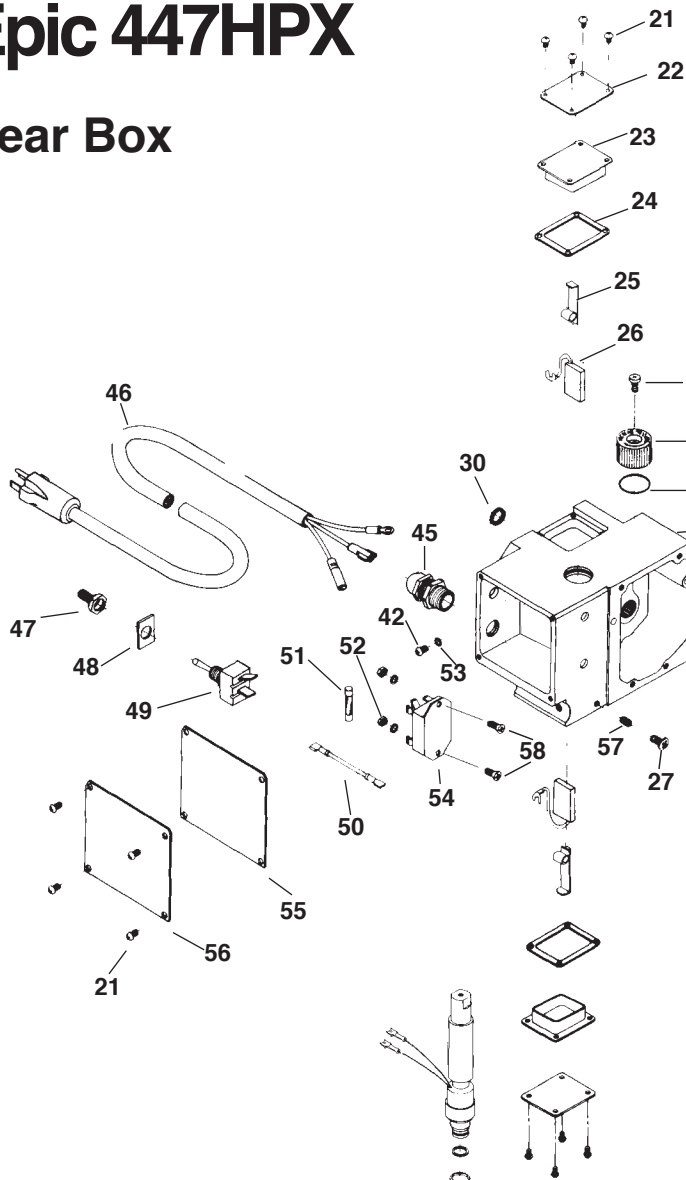

Figure 6
1. Remove safety plates (#43 and 44), pg. 22 Figure 6.